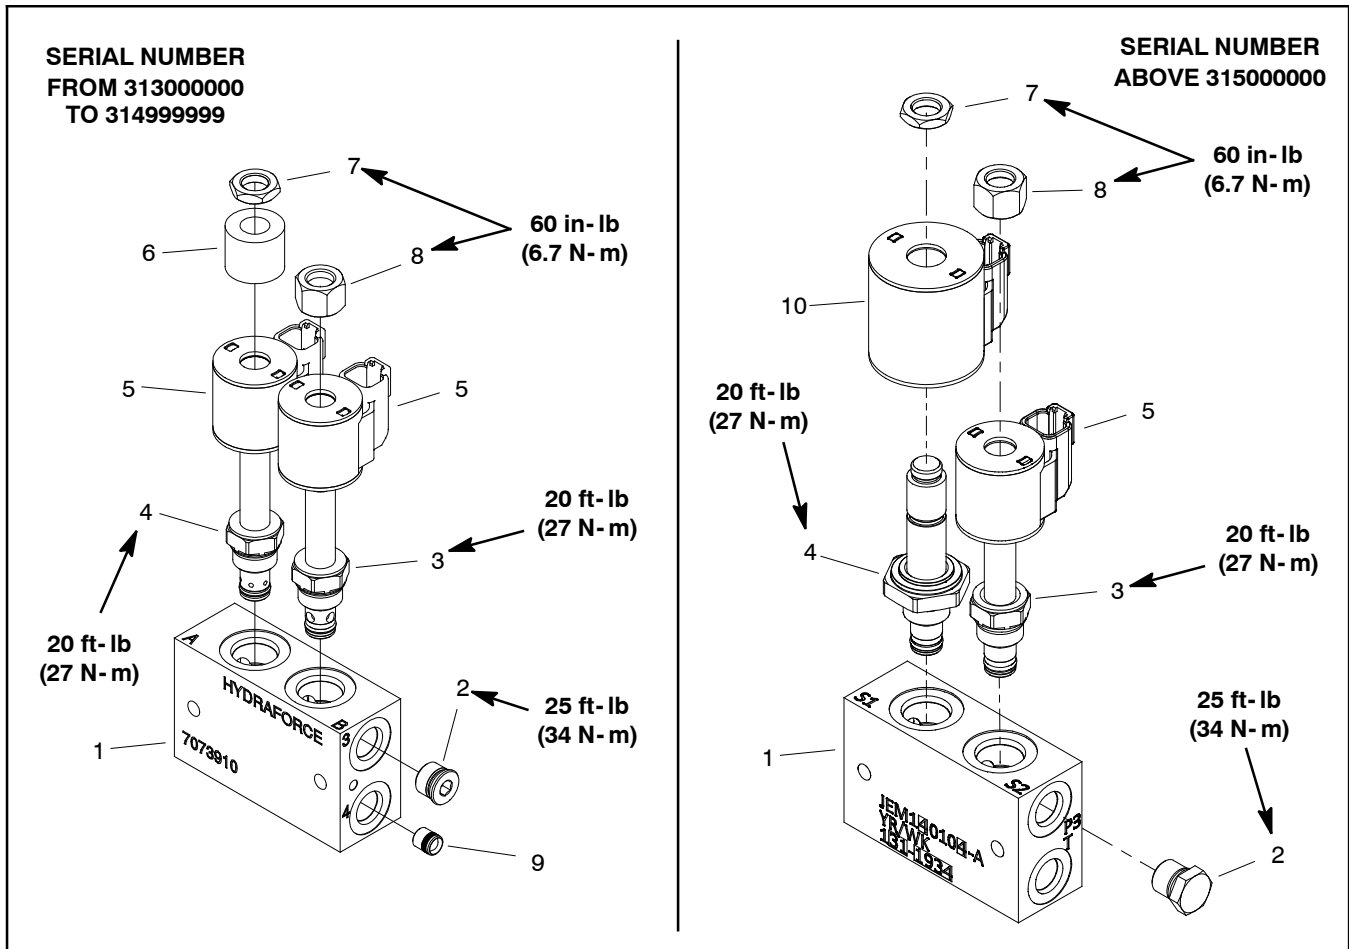

Figure 104
The lift control manifold on machines with a serial number from 313000001 to 314999999 is different than the manifold used on machines with a serial number above 315000000. Both manifolds are shown in Figure 104. Service for manifold valves, solenoid coils and plugs are similar on either manifold.
## Deck Lift Manifold Service (Figure 104)
D. Torque cartridge valve using a deep socket wrench to value identified in Figure 104.